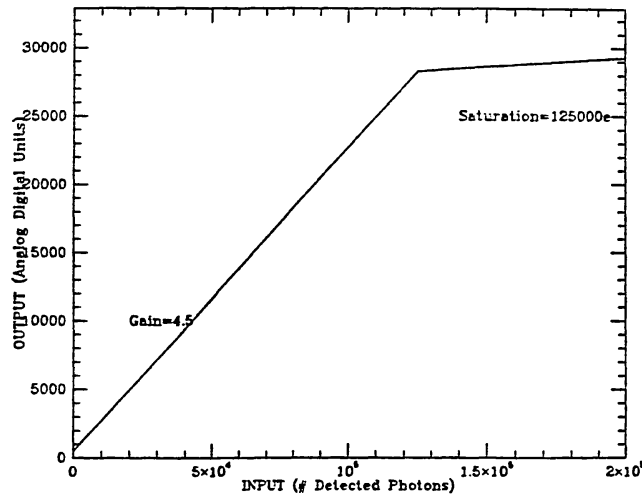

Fig. 1. *Good data* is linear over a substantial range.
- **Linear:** *Good data* would be linear. Figure 1 illustrates this point. Over some range, the output values (ADUs, for analog digital units, or DN for data numbers) are proportional to the input number of photons. When there are zero photons, there is still some pedestal (“DC offset”) level. We don’t want to have zero ADUs if there are zero photons, because there is bound to be some “readnoise”, and we don’t want to have any values dipping below zero ADUs